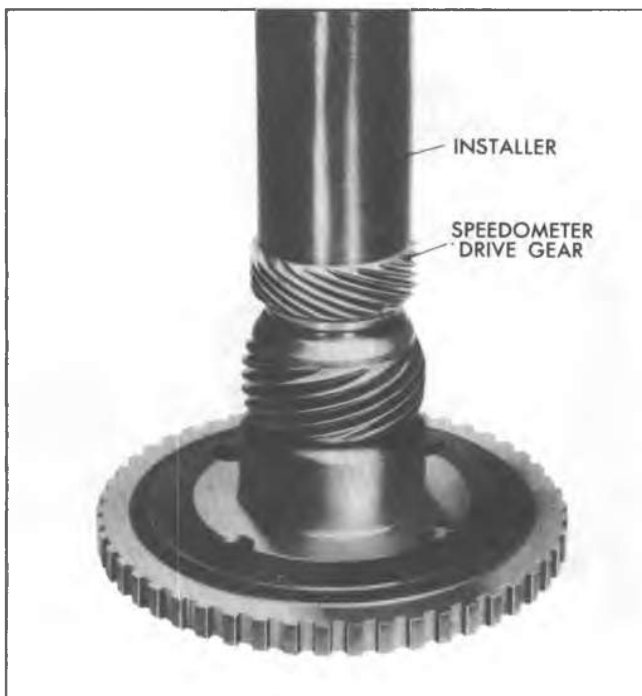

Fig. 7A-56C--Installing Steel Speedometer Drive Gear
2. Install new steel speedometer drive gear and drive to location (5-43/64" below end of output shaft for all models except CA, CG and CR) (11-15/64" below end of output shaft for model CA) (11-29/64 below end of output shaft for models CG and CR) using J-5590 (Fig. 7A-56C).